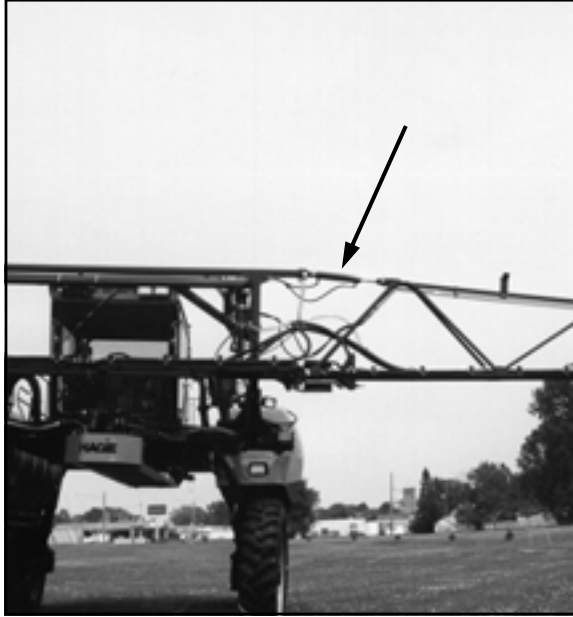
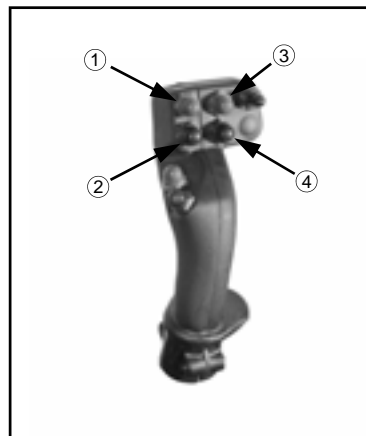

FIG 5.11
FIG 5.12
To increase or decrease the angle of each individual boom level, depress the left or right “GRAY” (UP) or the left or right “RED” (DOWN) buttons on the hydrostatic drive handle (fig. 5.12, items 1 thru 4). While depressed, these buttons activate the level cylinders connecting either boom to the transom (fig. 5.11).